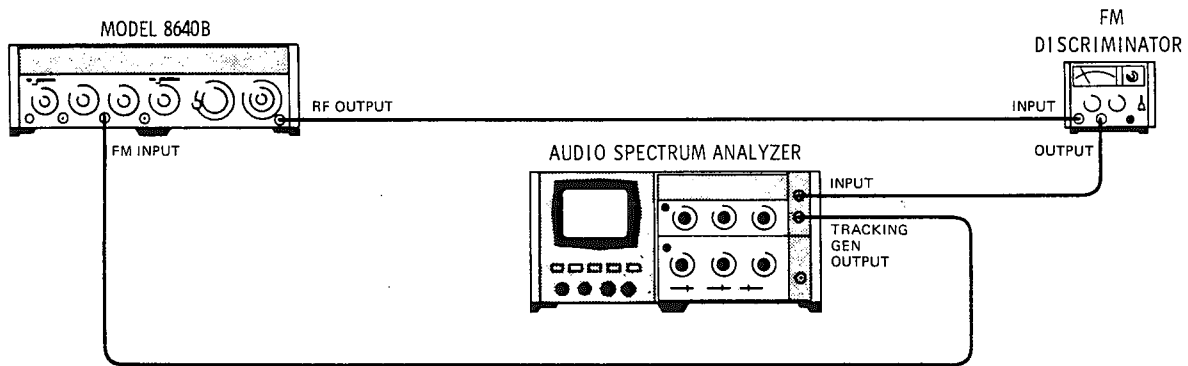

Figure 4-24. FM 3 dB Bandwidth Test Setup
1. Connect equipment as shown in Figure 4-24 after setting Signal Generator's controls as follows: